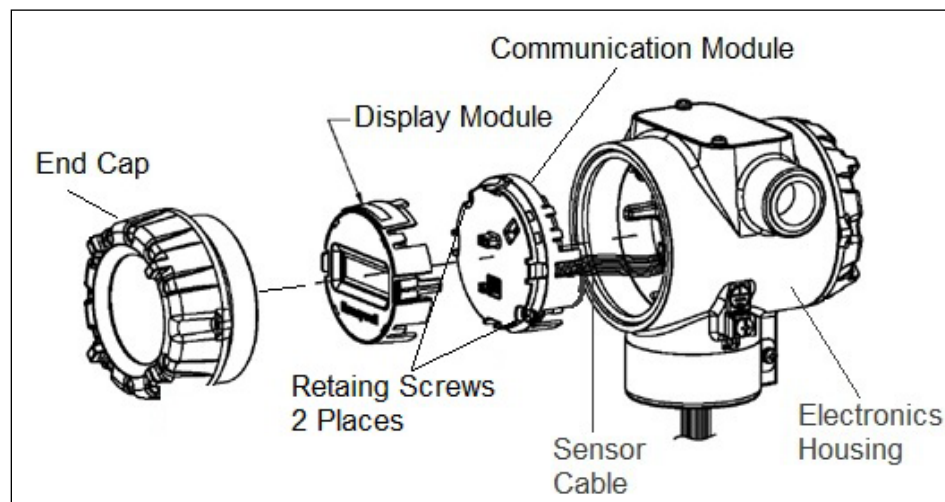

Figure 24 – ST 700 Standard Transmitter - PWA Replacement
Refer to Figure 24 for parts locations.
16. Install external upgrade label (e.g. DEVICE MODIFIED.....) provided on outside of housing as shown in Figure 24.